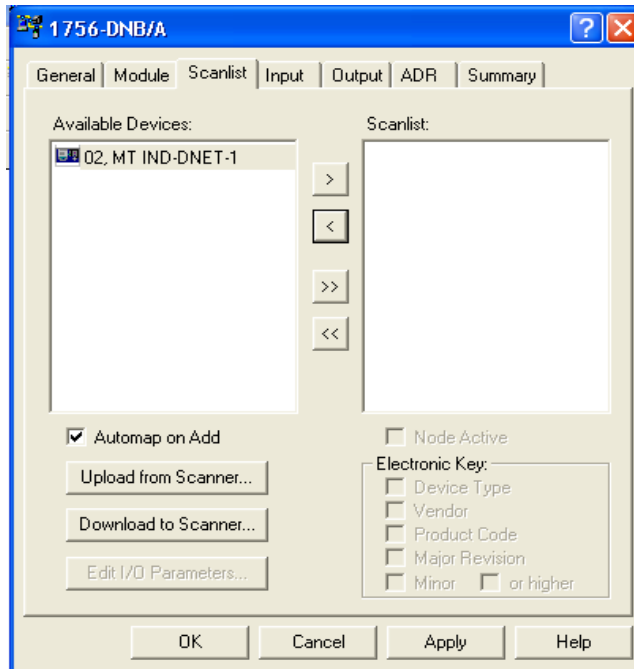

Figure 5-23: Scanner Properties Dialog: Scanlist Tab Showing
- Click the Scanlist tab in the properties dialog box. The view shown in Figure 5-23 will appear.